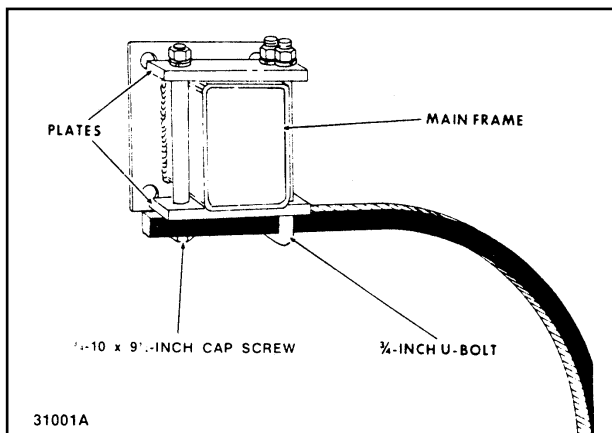

Figure 3-18 - Rigid Shank Holder
- a. Mount shank assembly to frame with two plates, 3/4" x 9-1/2" cap screw and 3/4" x 9-1/2" U-bolts, lock washers, nuts (**See Figure 3-18**).